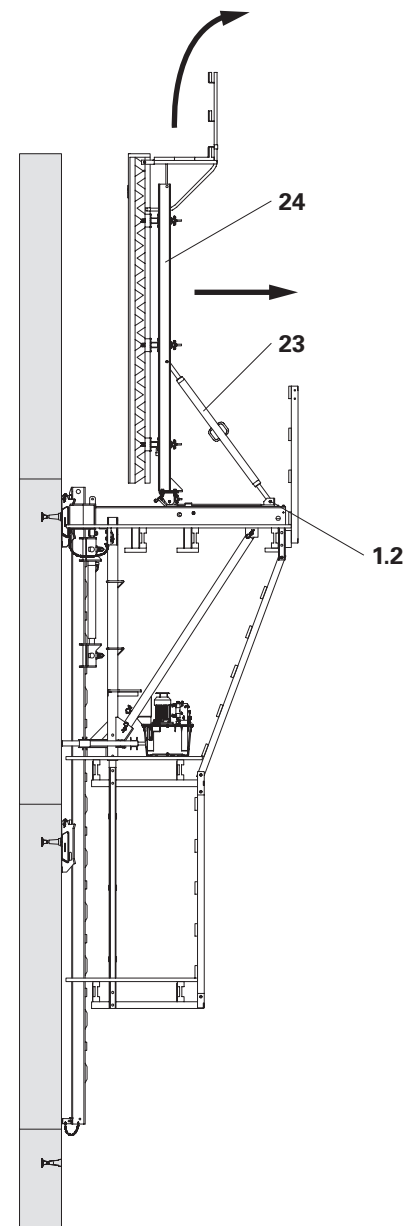

Fig. E1.01
3. Lift out the formwork, place it on the formlining side and dismantle it. (Fig. E1.01)